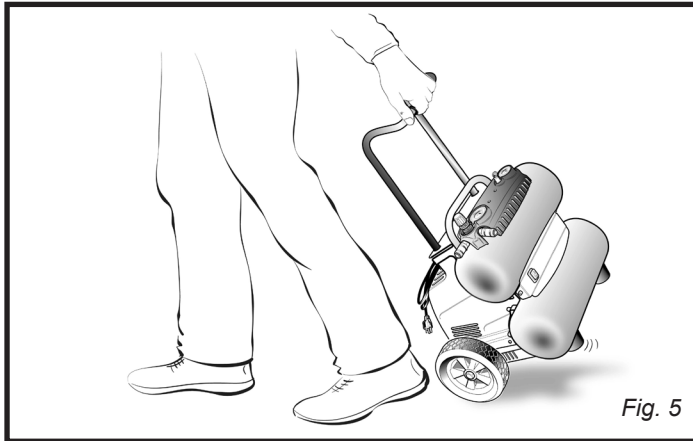

Fig. 5
See figure 5.
- Pull the telescopic handle (see fig. 5) out until it locks into place.